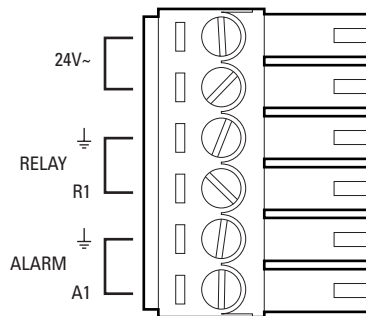

Figure 4. Alarm and Relay Wiring
- c. Connect the auto iris lens to the 4-pin connector located on the side of the camera. Refer to Figure 4 for the pin connections for the auto iris lens connector.
NOTE: If the network has no Power over Ethernet (PoE), connect a 24 VAC Class 2 power supply to the 24 VAC power connector (refer to Figure 4).
5. Connect the necessary wiring for alarms and relays (refer to Figure 4). Only use the 24 VAC wires if PoE is not available.